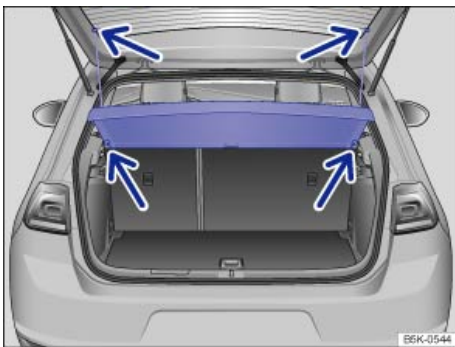

Fig. 91 In the luggage compartment: Installing and removing the luggage compartment cover.
- Unhook the supporting cords from each side of the rear hatch ⇒ fig. 91 (top arrows).